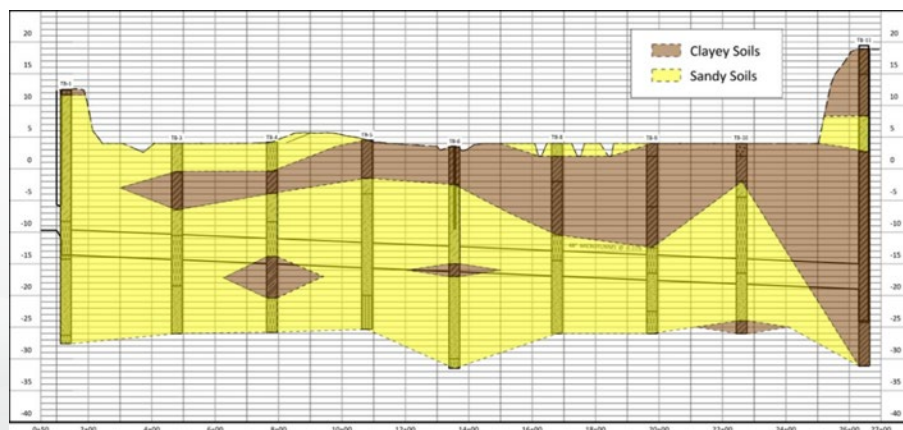

Figure 4. Profile View of Pipeline Alignment with Overlay of General Soil Conditions
Data from thirteen (13) borings associated with the site-specific geotechnical investigation were used to characterize the ground conditions along the pipeline alignment. The ground consisted of cohesionless soils intermixed with cohesive soils (see Figure 4), including poorly graded sands (SP), poorly graded sand with silt (SP-SM), clayey sand (SC), lean clays (CL), fat clays (CH) and organic clays (OH) in accordance with ASTM D2487. The shallow groundwater conditions, proximity to the Neches River, and the likely direct hydraulic connection of the sandy soils between the river and the proposed excavation